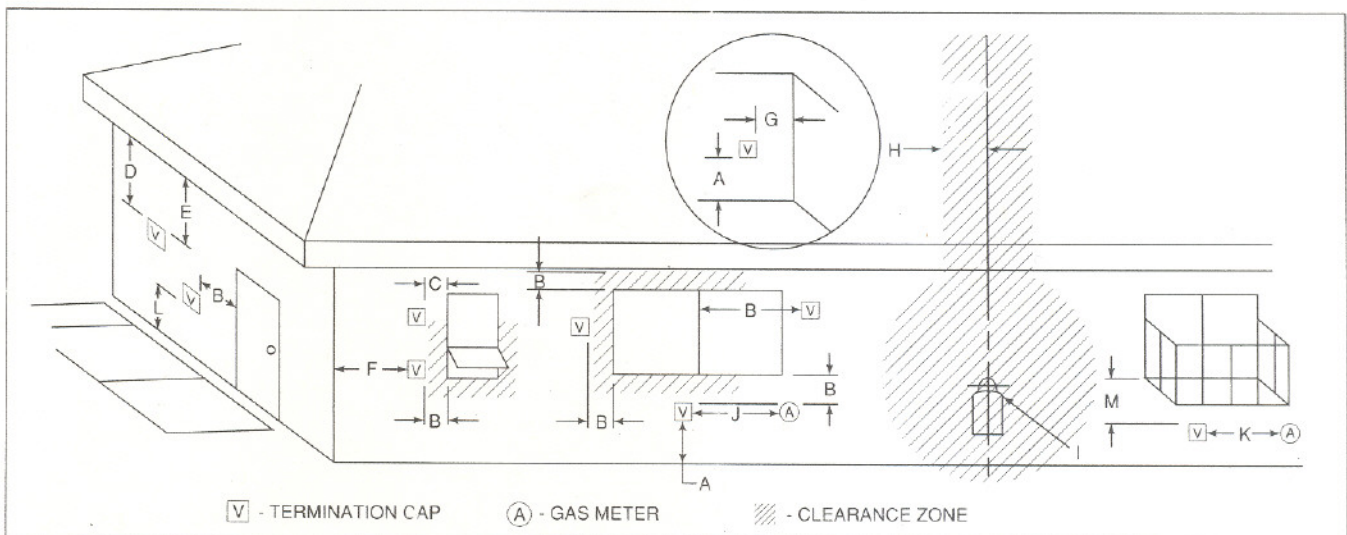

**Figure 6**
Place the interior wall shield into position and secure with (4) 1" fasteners, (1) in each corner. Bend the tab and use a 1/2" screw to secure the pipe to the wall shield. See Figure 6. Wall thickness must be 4" minimum to 23 1/2" maximum.